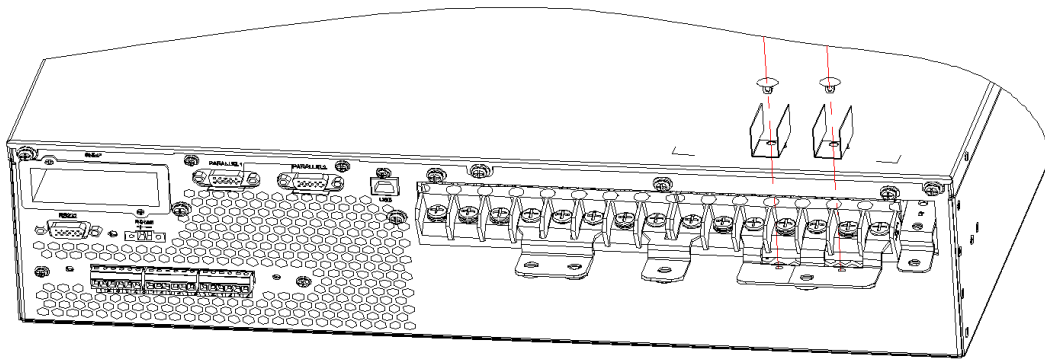
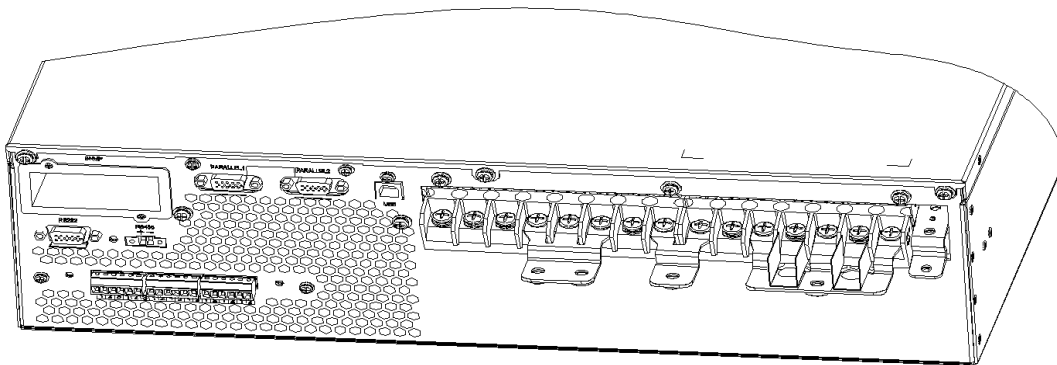

Fig. 3-19 Fix insulation film
Fig. 3-20 Graphic of insulation film fixed
- 3、 In Figure 3-19, mounte the insulating film (accessory) to the No.5 copper bar, and fixed in the corresponding position with the plastic rivet, as shown in figure 3-20.